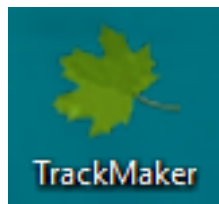

Figure 9 - Application shortcut
9. Start the TrackMaker application by double clicking on the shortcut icon on the desk top (see Figure 9 - Application shortcut).